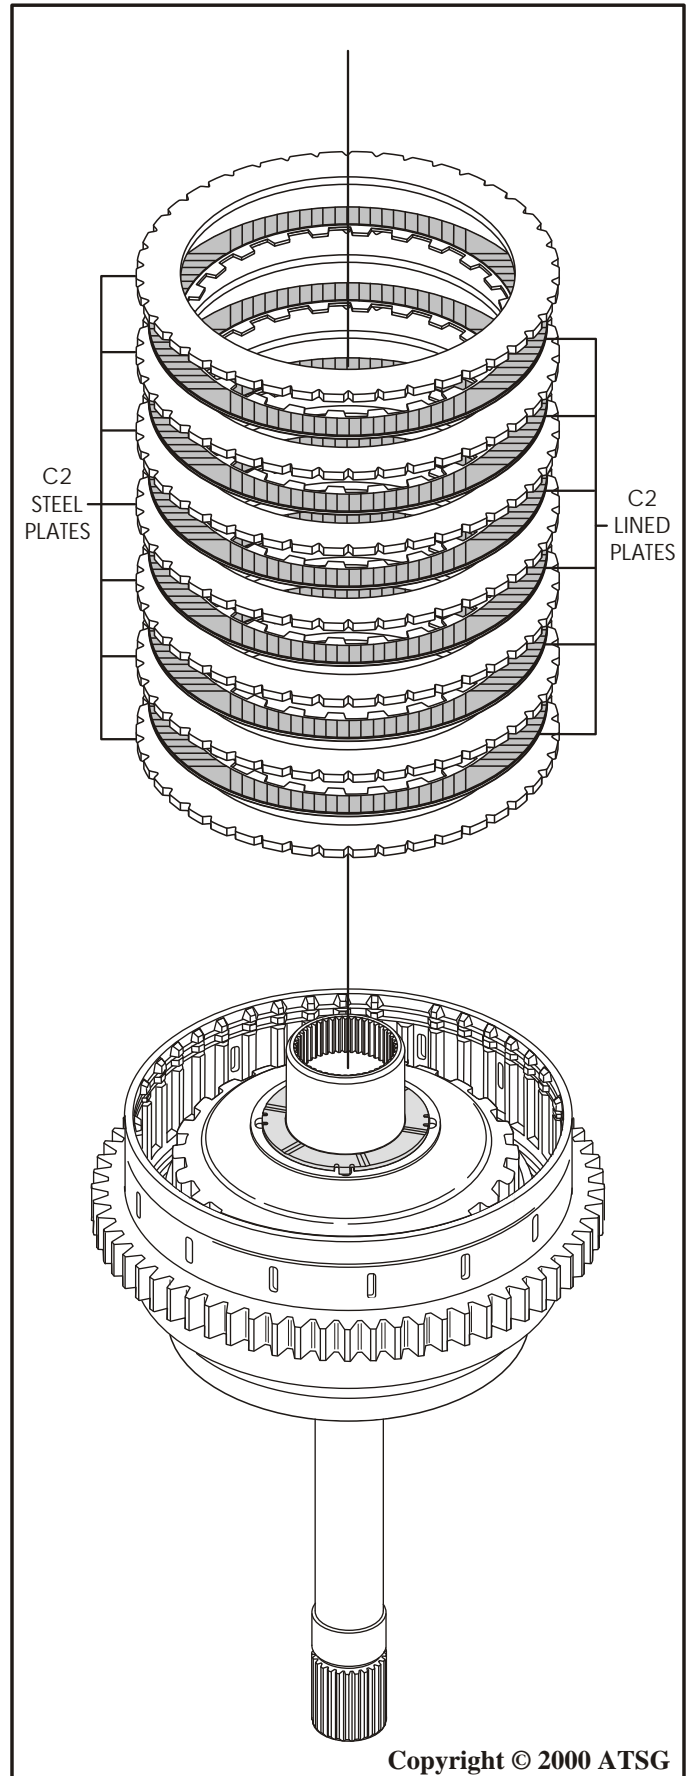

Figure 114
38. Install the C2 clutch pack into the housing, as shown in Figure 114, beginning with a steel plate and alternating with lined plates until you have installed 7 steel plates and 6 lined plates. **Note: In the C2 clutch pack you begin with a steel plate and end with a steel plate as shown in Figure 114.**